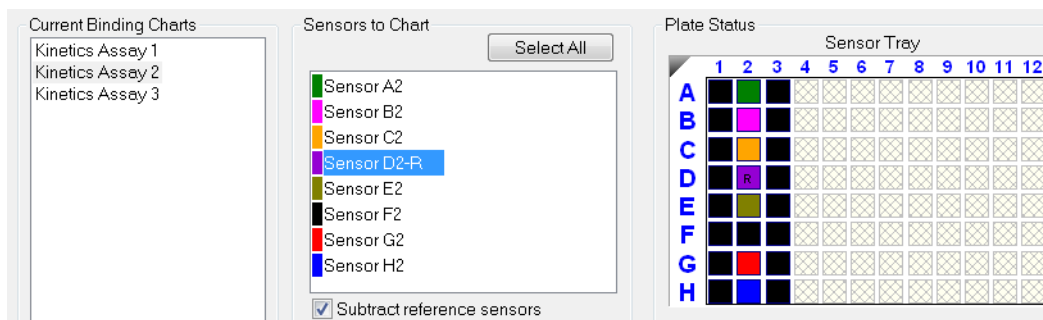

Figure 9-61: Subtract Reference Sensors check box in the Runtime Binding Chart
The selected biosensor will be shown with an **R** in the **Sensors to Chart** list and **Sensor Tray** (see Figure 9-61).
2. Click the **Subtract reference sensors** check box (see Figure 9-61).